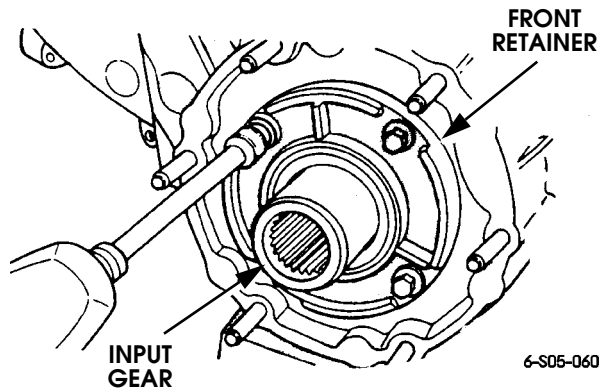

Figure 5-140: Front Retainer Installation
- c. Align oil feed slot in retainer with feed hole in front case and install retainer (Figure 5-140).